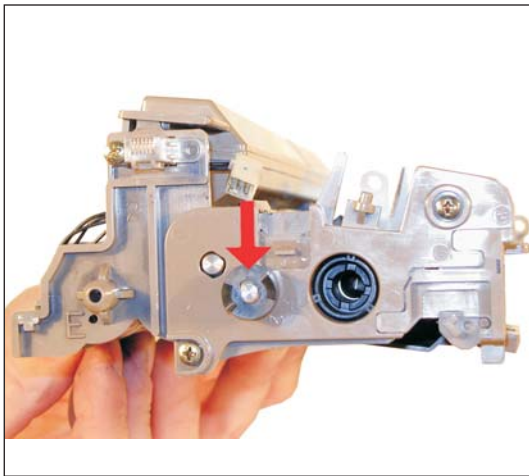

Figure 9
6) Remove the small black gear from the contact side of the cartridge. (The right side with the drum facing up, and towards you). See Figure 9